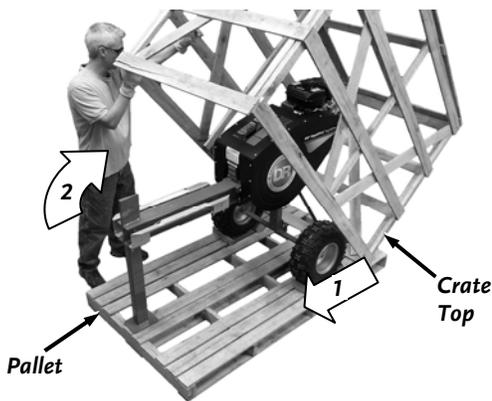

Figure 3
3. Pull the Crate towards the front of the Pallet (arrow 1) to create room so you can then lift it up and rotate over (arrow 2) to the back of the machine (*Figure 3*).